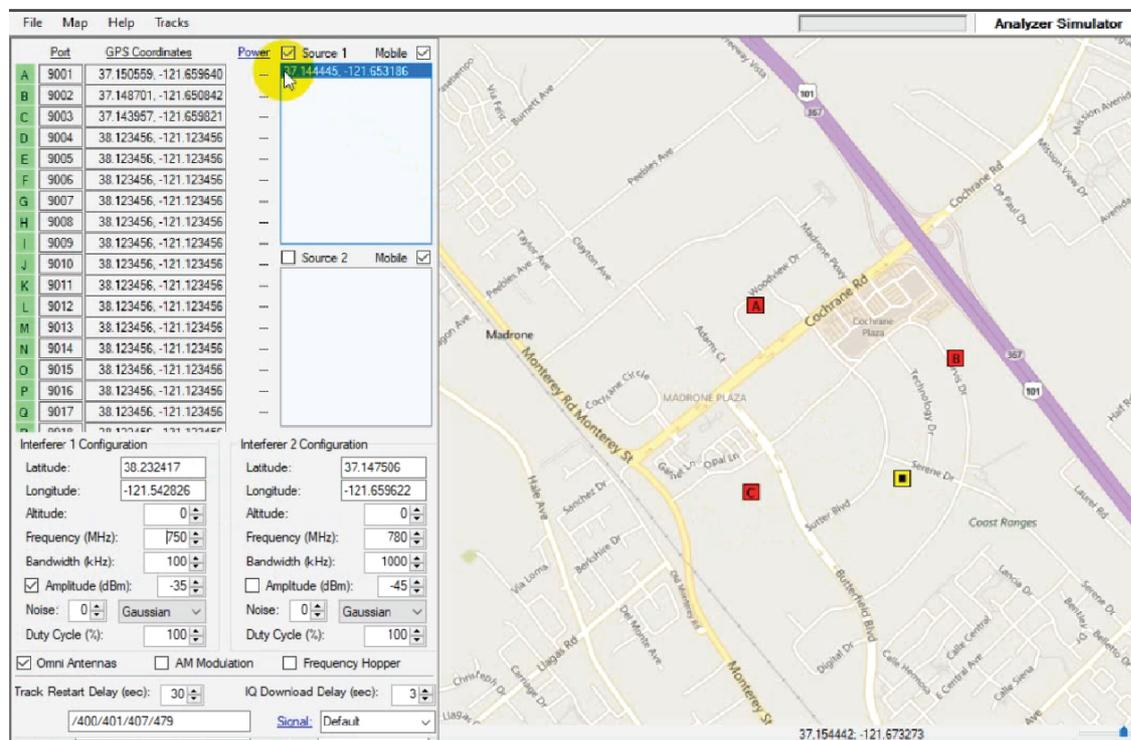

Figure A-5. Map File loaded Into the Simulator Program
4. Click OK in the Enter Map Edge Coordinates dialog to launch the map with the designated coordinates in the Simulator Program as shown in Figure A-5.
3. Click on the map to place markers as shown in Figure A-5 on page A-6.